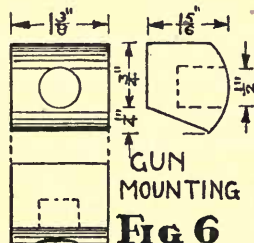

**FIG 1**
**TURRET PIVOT.**—This is 3" long and  $\frac{1}{2}$ " diameter. Drill a small hole,  $\frac{1}{4}$ " from one end, for a pin (Fig. 1).